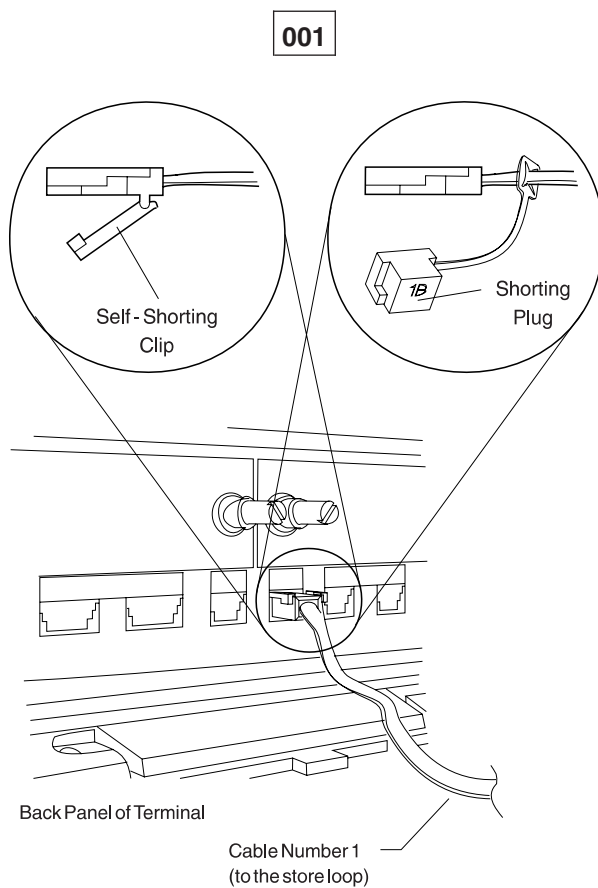

Figure 37. Mod1 Terminal Store Loop Cable 1 and Shorting Plug 1B
Is the store loop cable plugged into the loop cable socket on this Mod1 terminal? See Figure 37 on page 505.
- Attach shorting plug 1B to the terminal-end of the cable. See Figure 37 on page 505.